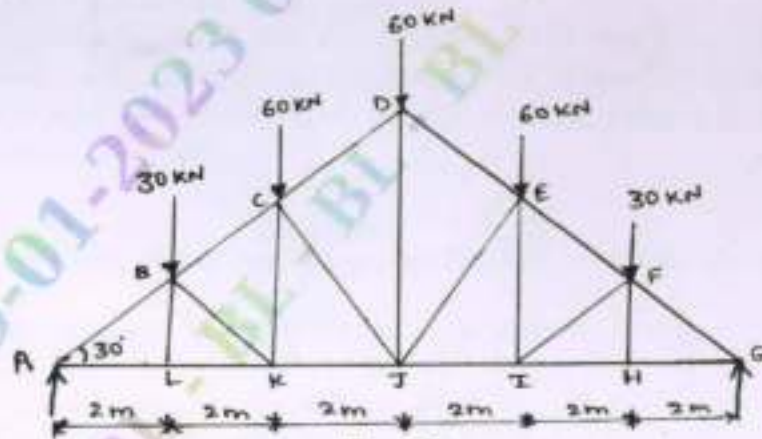

Fig.Q.3
- 3 A line diagram of a roof truss with internal loads and forces in each members are shown in Fig.Q.3. Design the various members of the roof truss along with their end connection with bolt using property class 5.6 black bolts. Also design the bearing plate at the support for the reaction and anchor bolts for an uplift force of 15kN. Draw elevation of truss greater than half span. (50 Marks)